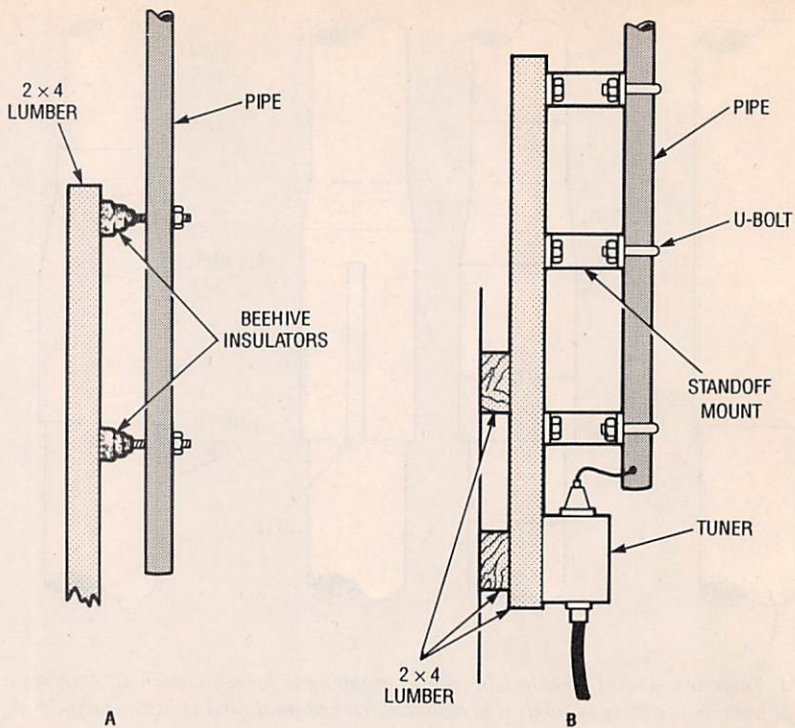

Fig. 4. The antenna should be mounted with beehive stand-off/insulators, as shown in A or using TV stand-off mounts as shown in B.
type that is used for fence posts; if the treated type is not used, bugs and rot will destroy it very quickly! It is also possible to combine mounting schemes. For instance, you could use a  $2 \times 4$  or  $4 \times 4$  lumber to form the pedestal portion of the mount in Fig. 7, and then attach the antenna using the method outlined in Fig. 4.
**Going Further.** There are 4 digital inputs on the game port so you can have up to 4 Analog Input Adapters connected at the same time. You can easily construct a circuit board that distributes power and ground to the attached adapters. Remember to connect the signal lines to different button inputs on the port. Refer to the pinouts in Fig. 4 for the proper connections and input addresses for the game sport connector. ■